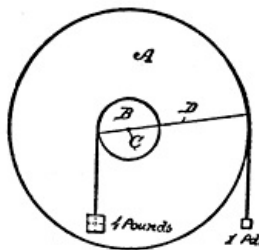

Fig. 128. The Pulley
This will be made plain by a few illustrations. In Fig. 128, A is a pulley four times larger, diametrically, than B, and C is the pivot on which they turn. The pulleys are, of course, secured to each other. In this case we have the two weights, one of four pounds on the belt, which is on the small pulley (B), and a one-pound weight on the belt from the large pulley (A).